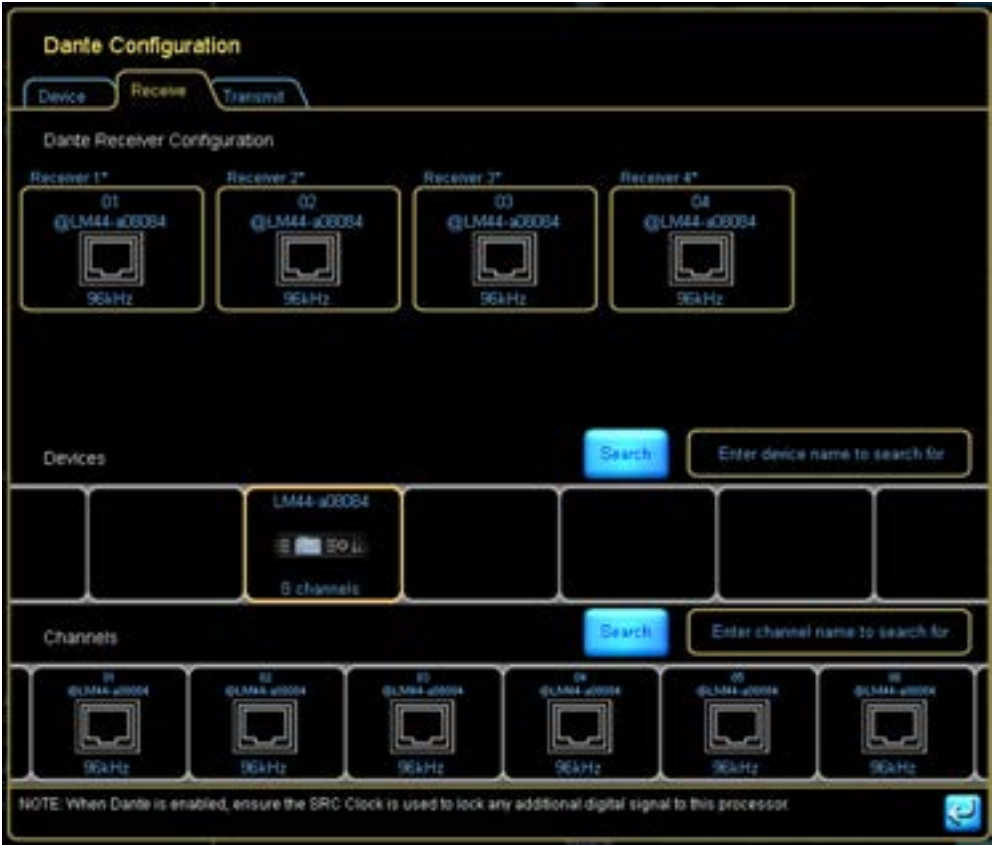

Figure 8-13: LM Series Dante Receive
*When Dante is locked for the receiving channel, an asterisk * is shown next to the Receiver number as shown in Figure 8-13.*